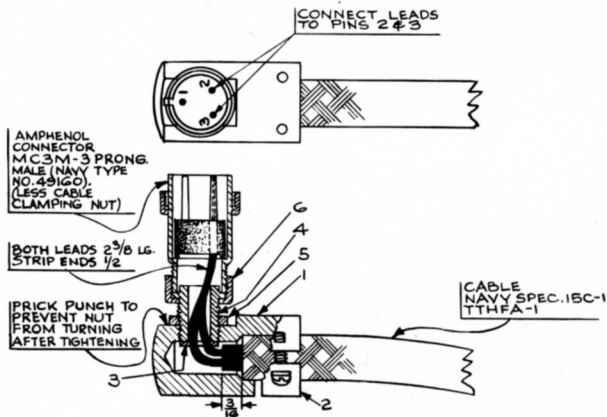

Figure 2-7 — Connector Assembly (K-885363)
h. When a phone output cable Navy Type TTHFA-1 is used a Navy Type -49509 adaptor is required with the Navy Type -49160 output phone plug (see Tables 1-6 and 1-7 and paragraph 7-a (1)).
(1) Remove the cable clamping ring furnished with the output plug, Navy Type -49160 (J302).
(2) Strip the ends of the two conductors $\frac{1}{2}$ -inch as shown in Figure 2-7.
(3) Insert the cable into the connector body (1 of Figure 2-7) and pull the two conductors through the tapped hole in the body.
(4) Clamp the cable in place with the clamp (2 of Figure 2-7). Two machine screws and lockwashers are furnished for this purpose.
(5) Insert the insulating washer (3 of Figure 2-7) over the two conductors and into the bottom of the tapped hole in the connector body.
(6) Assemble bushing, locknut, coupling nut (4, 5 and 6 of Figure 2-7) and plug Navy Type -49160. Insert the conductor leads into pins No. 2 and No. 3 as shown in Figure 2-7.
(7) Before tightening the locknut (5 of Figure 2-7) note positions of the key and connections. Be sure that the positions agree with Figure 2-7. Tighten the locknut (5 of Figure 2-7).
(8) Prick-punch the connector body adjacent to the locknut to prevent it from turning.
(9) Solder leads to pins No. 2 and No. 3.